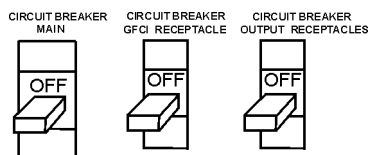

Figure 42. Main, GFCI and Load Circuit Breakers
1. Be sure to disconnect the electrical load and switch the **main, load** and **G.F.C.I.** circuit breakers (Figure 42) to the "OFF" position prior to starting the engine.